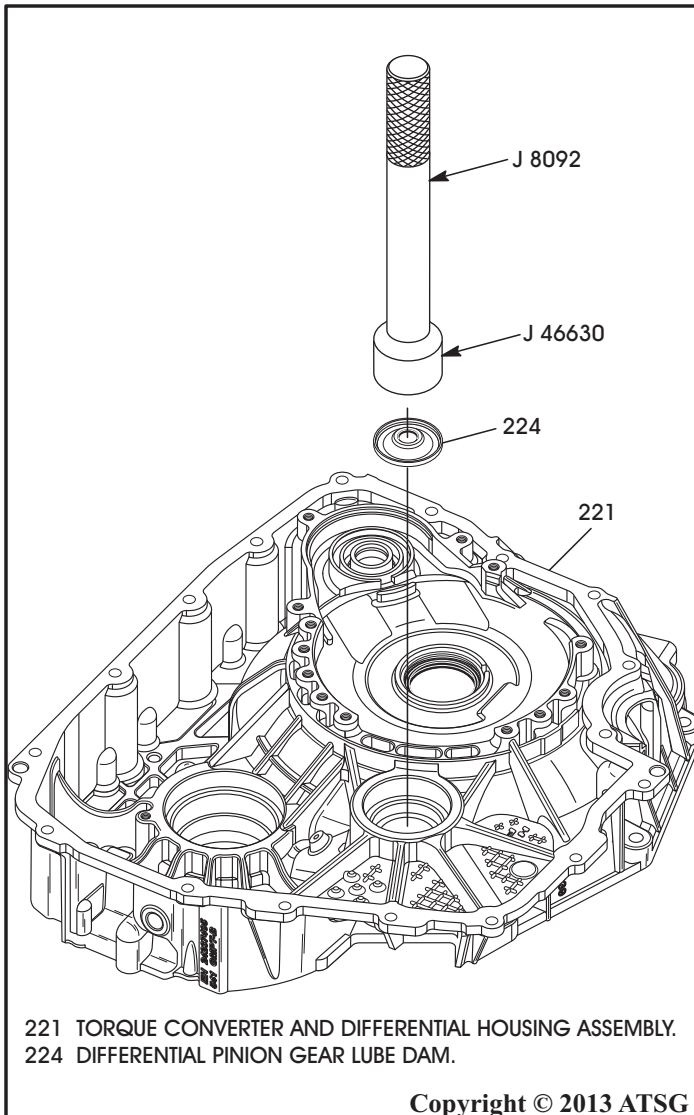

Figure 115
5. Install new differential pinion gear lube dam, as shown in Figure 115, using J-46630 installer and J-8059 handle.